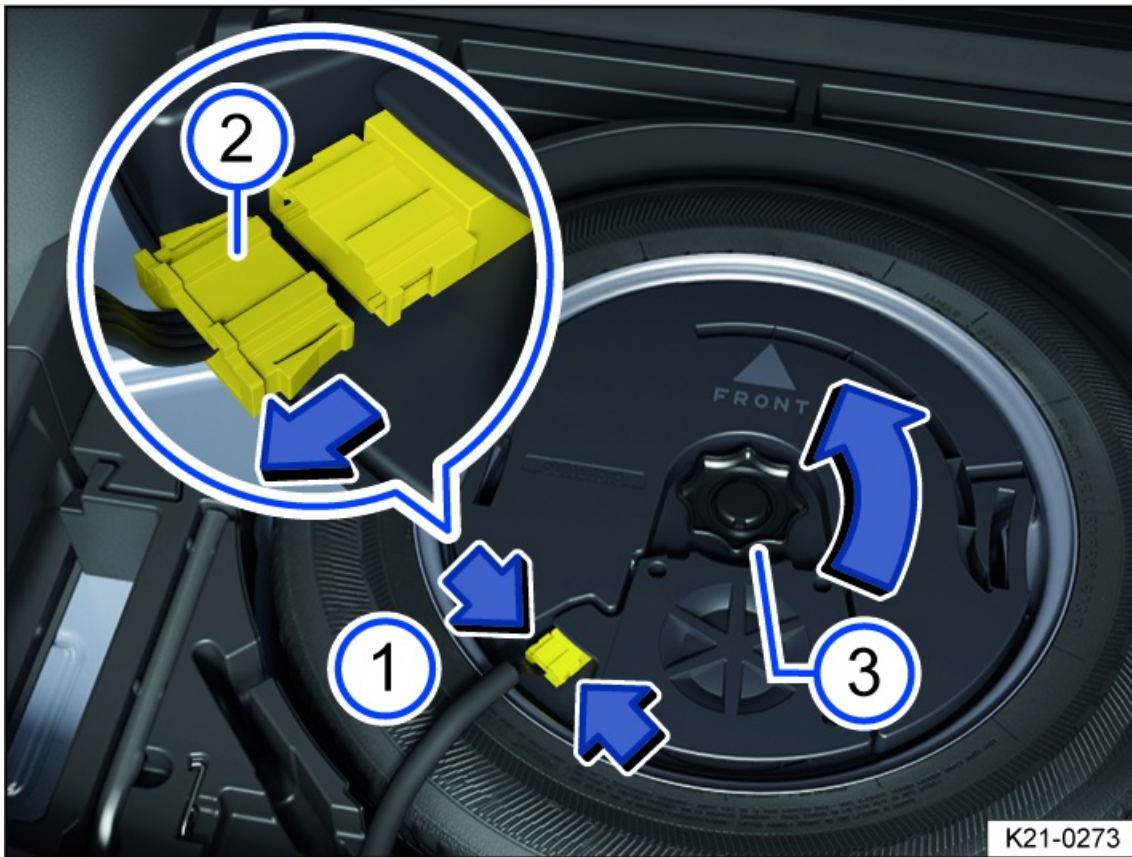

Fig. 170 Under the luggage compartment floor: removing the subwoofer (variant 1).
4. To release the connector, press the *fig. 170* lugs together (arrows ①).
5. Remove the connector *fig. 170* in the direction of the arrow and set the electrical wire that you have just removed to one side.
6. Unscrew the handwheel *fig. 170* in the direction of the arrow.
2. Plug in the connector *fig. 170* until it audibly engages.
3. Turn the handwheel *fig. 170* on the threaded pin in the opposite direction to the arrow until the subwoofer is securely fastened.